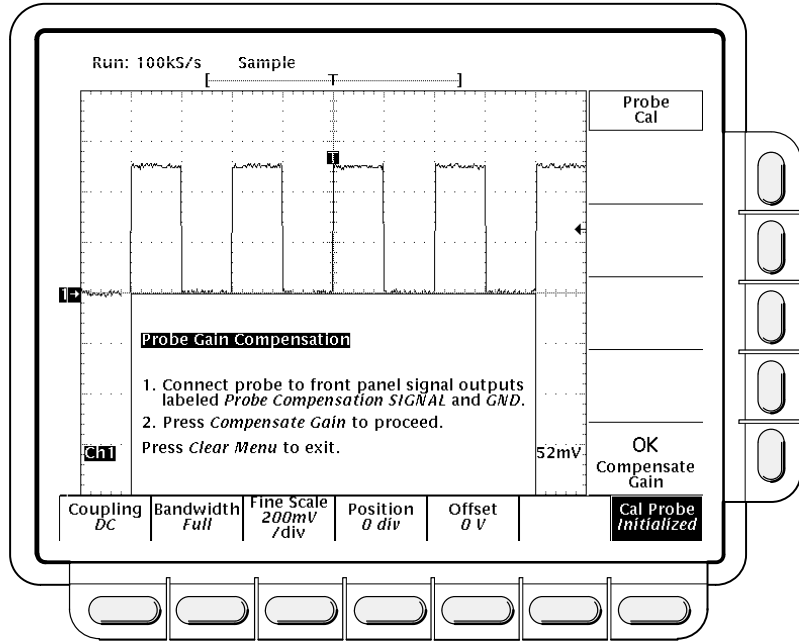

Figure 3-55: Probe Cal Menu and Gain Compensation Display
Your oscilloscope will detect the type of probe you have installed and display screen messages and menu choices for compensation of probe gain, offset, or both (see Figure 3-55). The following steps will have you run probe gain, offset, or both depending on the probe the oscilloscope detects.
18. After the clock icon is removed, verify the word **Initialized** changed to **Pass** under **Cal Probe** in the main menu. (See Figure 3-55.)